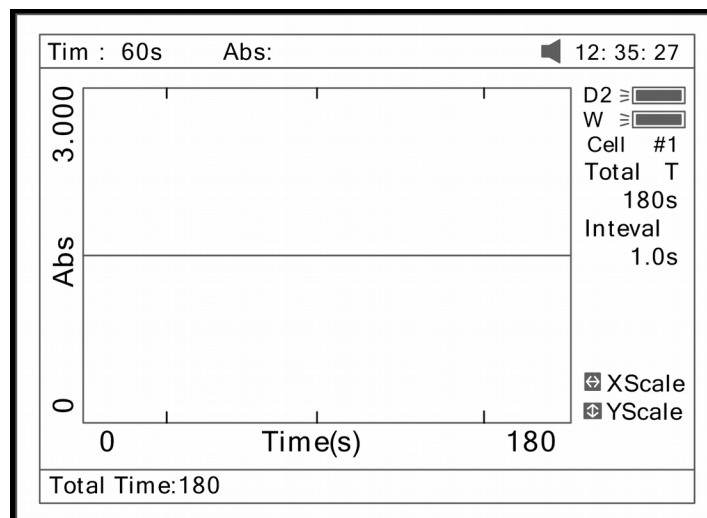

Fig 54
1. Press **(F1)** to set "Total Time", "Delay Time", "Time interval", and input the value by pressing the numeric keypad (Fig 54).